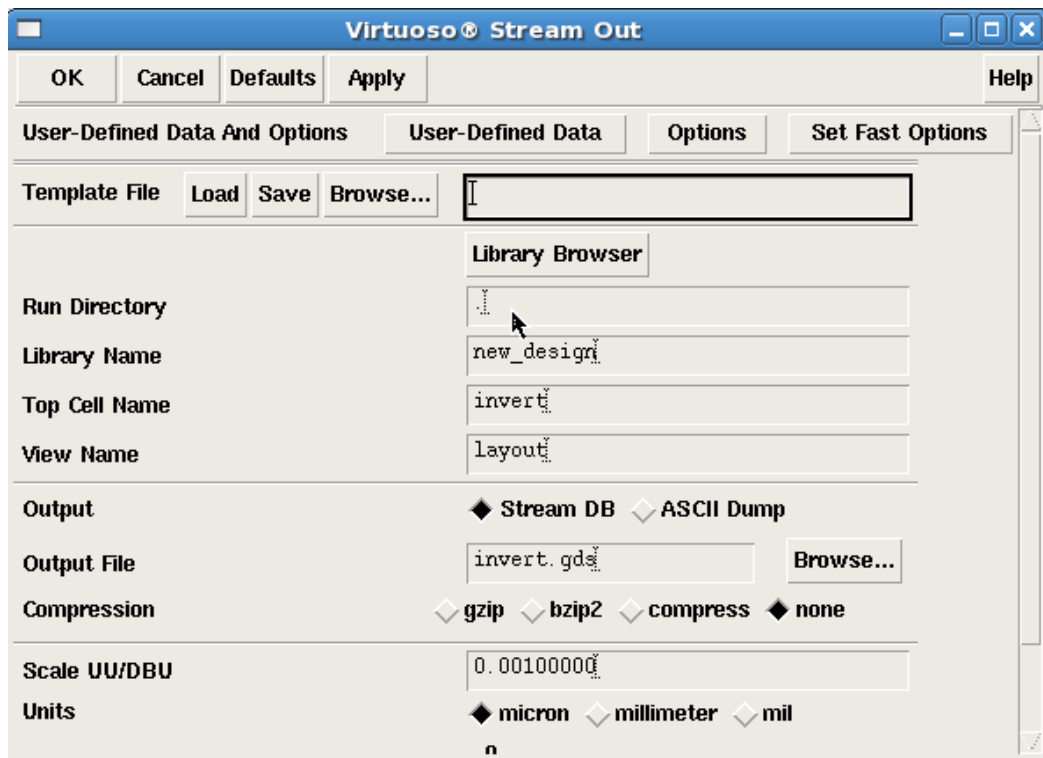

Fig.27
2. Select the top cell name to your design, fill in the “layer map table” and the output file name of the GDS file (Fig 27).